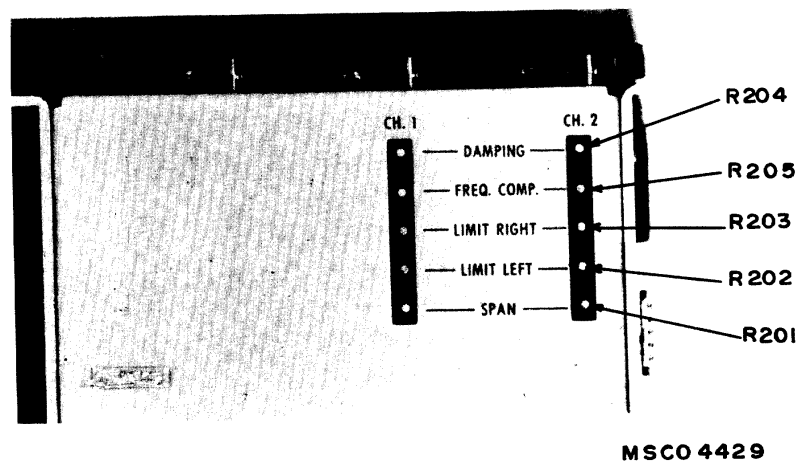
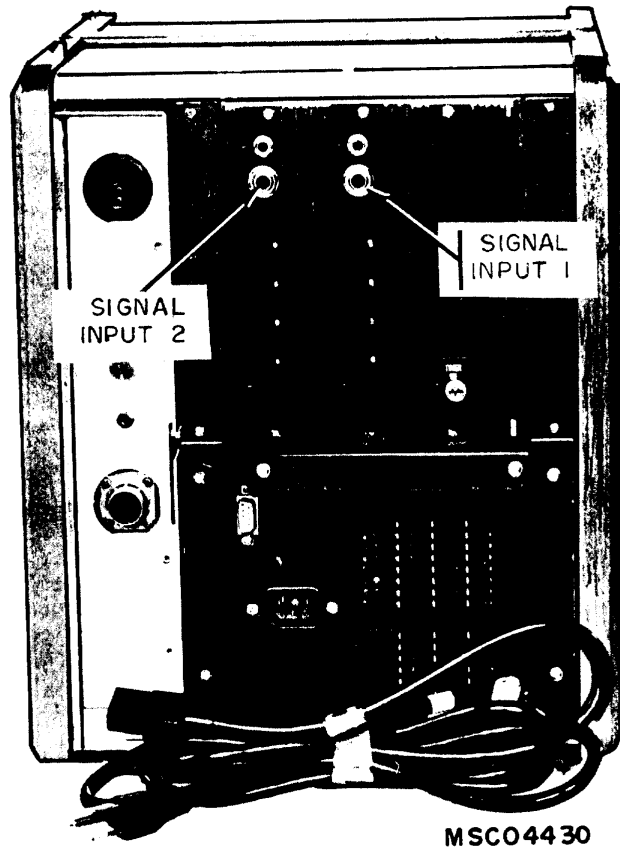

Figure 1. Model 2200S (Series) - top view.
Figure 2. Model 2200S (Series) - rear view
- i. Turn CH. 1 POSITION control fully ccw. Adjust CH. 1 R202, LIMIT LEFT (CH. 2 R202) (fig. 1) for 1.5 mm pen deflection beyond the left channel margin.
- j. Turn CH. 1 POSITION control fully cw. Adjust CH. 1 R203 LIMIT RIGHT (CH. 2 R203) (fig. 1) for 1.5 mm pen deflection beyond the right channel margin.
- (1) Connect dc voltage standard (A3) to SIGNAL INPUT I (fig. 2), using cable (B2).
(1) Set dc voltage standard output for +2.500 V dc.
(2) Adjust CH. 1 R201 SPAN (CH. 2 R201) (fig. 1) for a 25 mm pen deflection to the left on TI.
(1) Adjust signal generator (A7) for 1 Hz square wave at 4 V p-p.
(2) Connect signal generator to SIGNAL INPUT 1 (fig. 2), using adapter and cable (B1 and B2). Turn VARIABLE SPEED control to fully cw. If waveform on TI does not indicate less than 1 percent overshoot, perform **b** below.
(3) Repeat technique of (2) above for SIGNAL INPUT 2.
b. Adjustments. Adjust CH. 1 R204 DAMPING (CH. 2 R204) (fig. 1) for minimum overshoot or undershoot.
(1) Press 25 mm/sec pushbutton.
(2) Connect test oscillator (A8) to SIGNAL INPUT 1 (fig. 2), using adapter, cable, and termination (B1, B2, and B6).
(3) Adjust test oscillator frequency for 10 Hz and output for 30 mm pen deflection on TI.
(4) Set test oscillator EXPAND-NORMAL switch to EXPAND and adjust REF SET for 0 reference on test oscillator.
(5) Adjust test oscillator frequency to 50 Hz while adjusting amplitude as necessary to maintain 0 reference on test oscillator. If pen deflection does not remain between 29.1 and 30.9 mm, perform **b** below.
(6) Repeat techniques of (2) through (5) above for SIGNAL INPUT 2.
b. Adjustments. Adjust CH. 1 R205 FREQ. COMP. (CH. 2 R205) (fig. 1) for a 30 mm pen deflection (R).